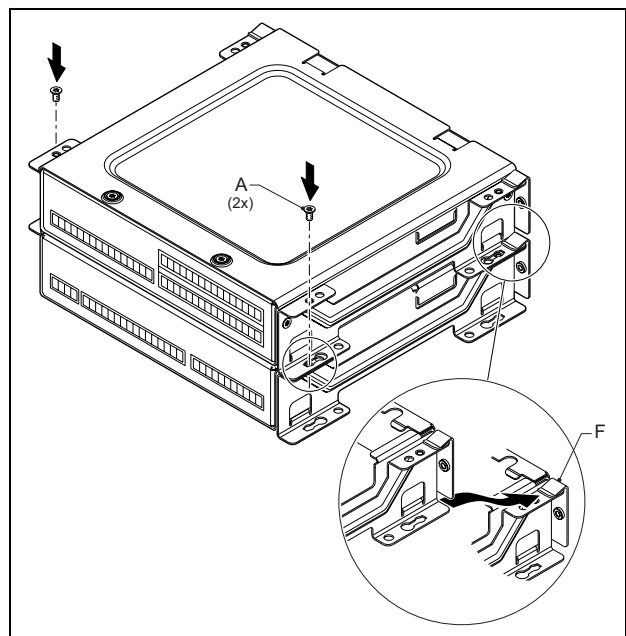

figure 3.11: Module stacking
- 7 Put the upper module on top of the lower module (see figure 3.11).